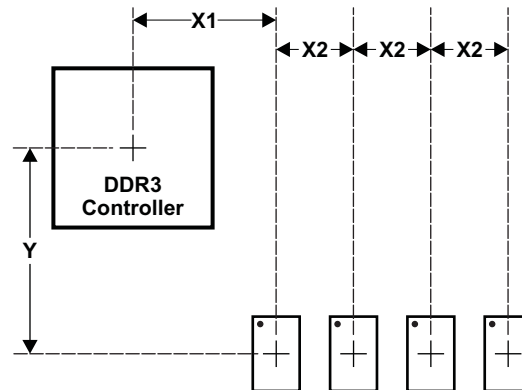

Figure 8-56. Placement Specifications
Figure 8-56 shows the required placement for the processor as well as the DDR3 devices. The dimensions for this figure are defined in Table 8-68. The placement does not restrict the side of the PCB on which the devices are mounted. The ultimate purpose of the placement is to limit the maximum trace lengths and allow for proper routing space. For a 16-bit DDR memory system, the high-word DDR3 device(s) are omitted from the placement.
- (1) For dimension definitions, see Figure 8-56.
(2) Measurements from center of processor to center of DDR3 device.
(3) Minimizing X1 and Y improves timing margins.
(4) w is defined as the signal trace width.
(5) Non-DDR3 signals allowed within DDR3 keepout region provided they are separated from DDR3 routing layers by a ground plane.
(6) If a device has more than one DDR controller, the signals from the other controller(s) are considered non-DDR3 and should be separated by this specification.